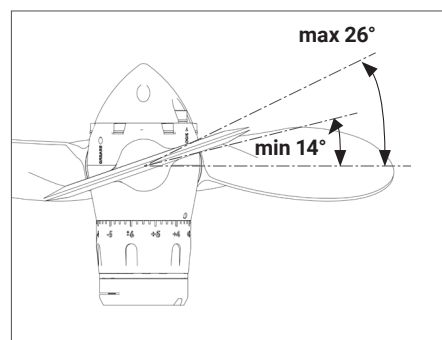

FIG. 26 Standard setting range
- Each adjustment notch corresponds to a change in blade angle of 0.25° and causes an increase or decrease of approximately 40-50 rpm of the engine at the same boat speed (this value is purely indicative and depends on the specifications of the engine installed). The standard adjustment range is from a minimum of 14° to a maximum of 26° (**Fig. 26**). Pitch adjustment within a range from a minimum of 20° to a maximum of 32° can be also available for special applications.